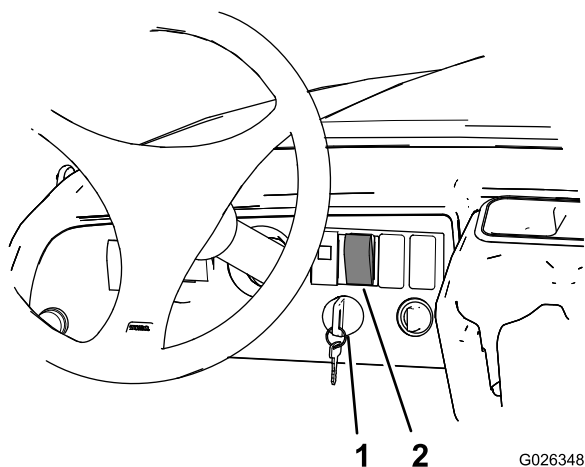

Figure 22
3. Rotate the key switch to the On position (Figure 22).
4. Press the upper half of the cargo box lift switch until the cargo-box actuator is fully extended (Figure 22).
5. Rotate the key switch to the Off position (Figure 22).